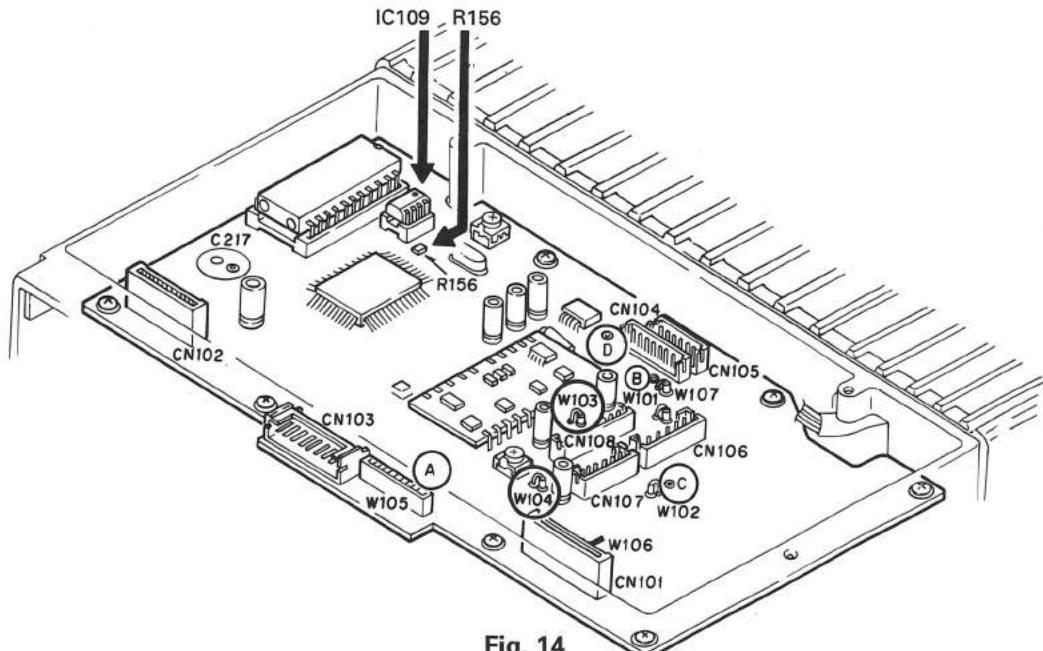

Fig. 14
2) Remove IC109 from the control unit (X57-3750 A/4) and install the KCH-5 EEPROM (X24C16PI) by soldering. (Fig. 14)
3) Remove R156 (R92-0670-05) of the control unit. (Fig. 14)
2) Remove IC109 (X24C04PI) of the control unit (X57-3750 A/4) from the socket, and install the KCH-5 (X24C16PI). (Fig. 14)